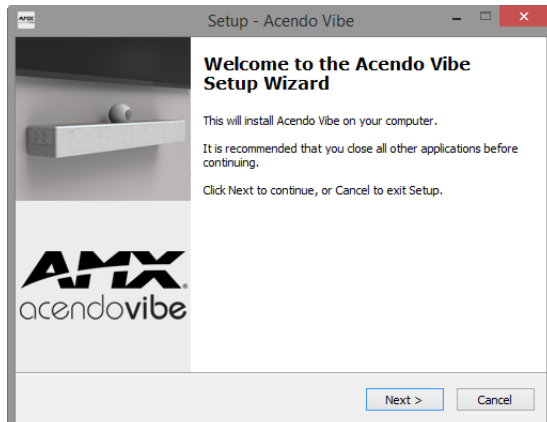

FIG. 19 Welcome to the Acendo Vibe Setup Wizard dialog
- a. In the *Welcome to the Acendo Vibe Setup Wizard* dialog, click **Next** to proceed (FIG. 19):